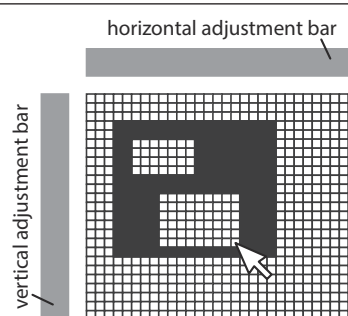

Fig. 84
- Next click and hold down the left mouse button and move the cursor (within the editing area) to delete a box, **Fig.84**.